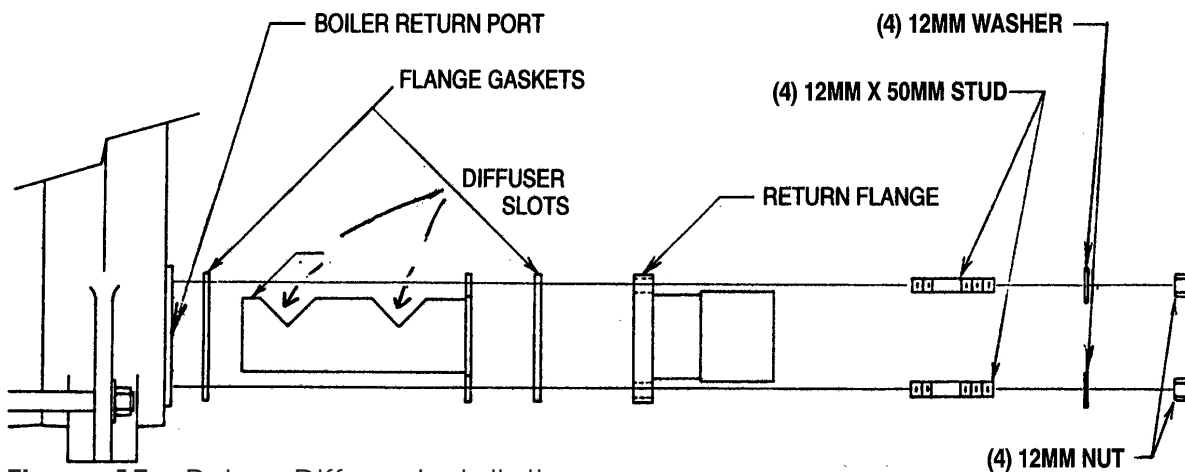

Figure 15 - Return Diffuser Installation
- b) Install return port diffuser and attach return flange as shown in Figure 15. Make sure diffuser SLOTS face upward.